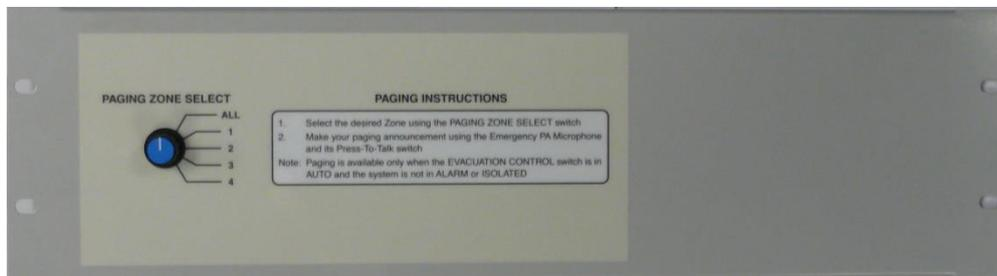

Figure 5. Label position
7. Fit the Zone selector switch label as shown in Figure 5. Align the label with the front panel and to cover the 4mm hole and reveal the larger 10mm hole.